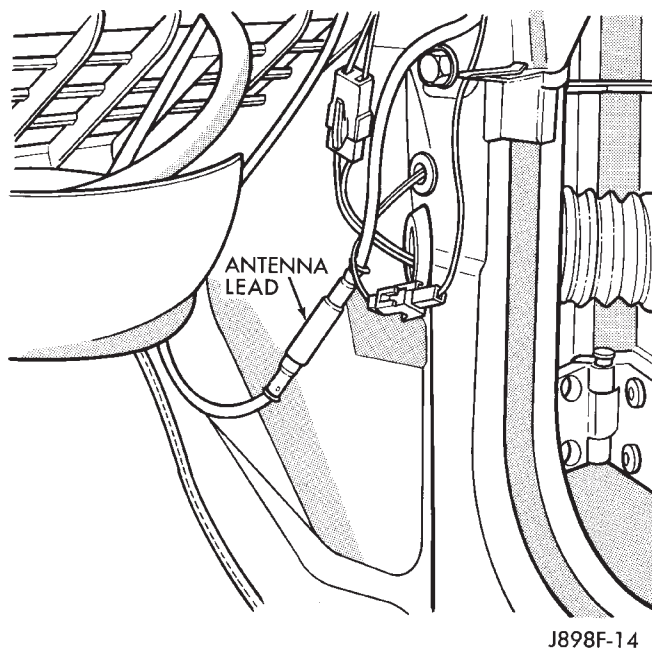

Fig. 19 Antenna Cable Connector - Typical
(8) Locate the antenna coaxial cable lead connector near the junction block at the right cowl side panel. Unplug the connector by pulling it apart while twisting the metal connector halves (Fig. 19). Do not pull on the cable.